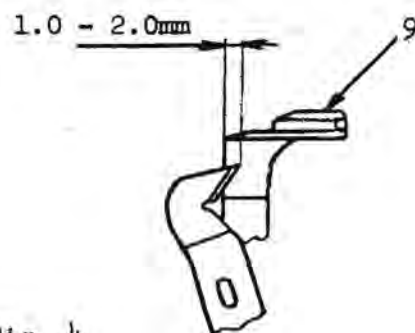

Fig. 4
Adjust needle thread cutting blade stop plate (10) so that the point of cutting blade (5) will be located 1.0 - 2.0mm from the front of throat plate post (9), as shown in Fig. 4, just when cutting blade pawl (2) slips off the cam plate (3).
1. Be careful that the stroke of cutting blade (5) is not too big since too big a stroke may cause the looper thread in notch "b" of the cutting blade to be severed or be pulled too far resulting in deformation of the buttonhole and stitch formation.
2. Check and make sure that the looper (threaded) does not hit the cutting blade stop plate (10) during its movement.